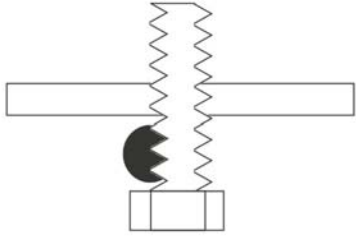
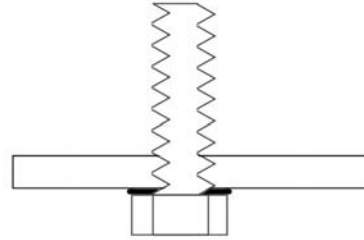
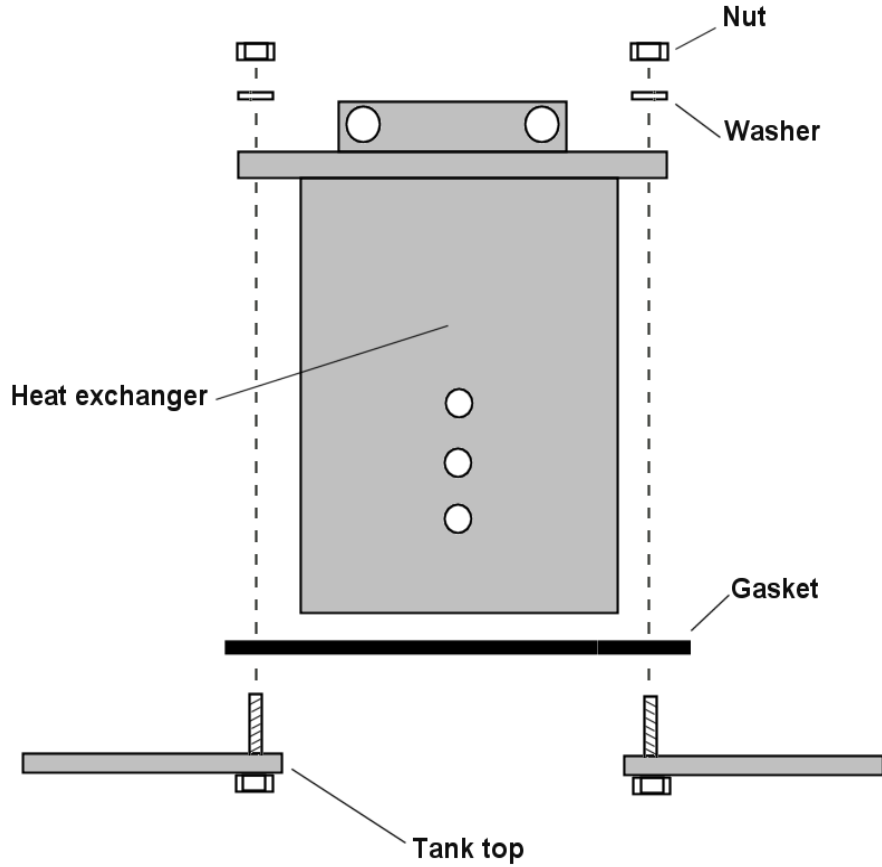

Fig.2
Fig.3
Fig.4
- 3) Reaching in through the 6" hole thread the 8 bolts provided upward through the 8 perimeter holes about half way and stop. Now apply a small amount of epoxy like "JB Weld" to the threads of the bolts inside the tank (Fig.2) then continue threading them until the head of each bolt is flush with the inside surface of the tank (fig.3). When the epoxy cures the bolts will be firmly held in place so that the in-tank heat exchanger can be lowered into the 6" hole and secured in place using the provided gasket, washers and nuts (fig.4).